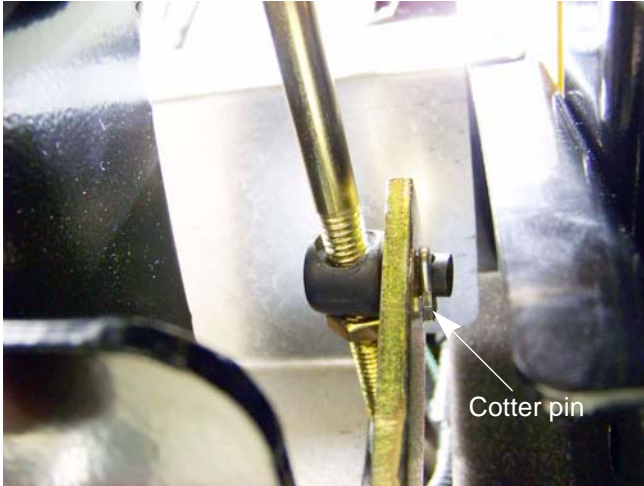

Figure 5.14
- 5e. Disconnect the brake rod from the brake pedal shaft by removing and discarding the cotter pin. See Figure 5.14.